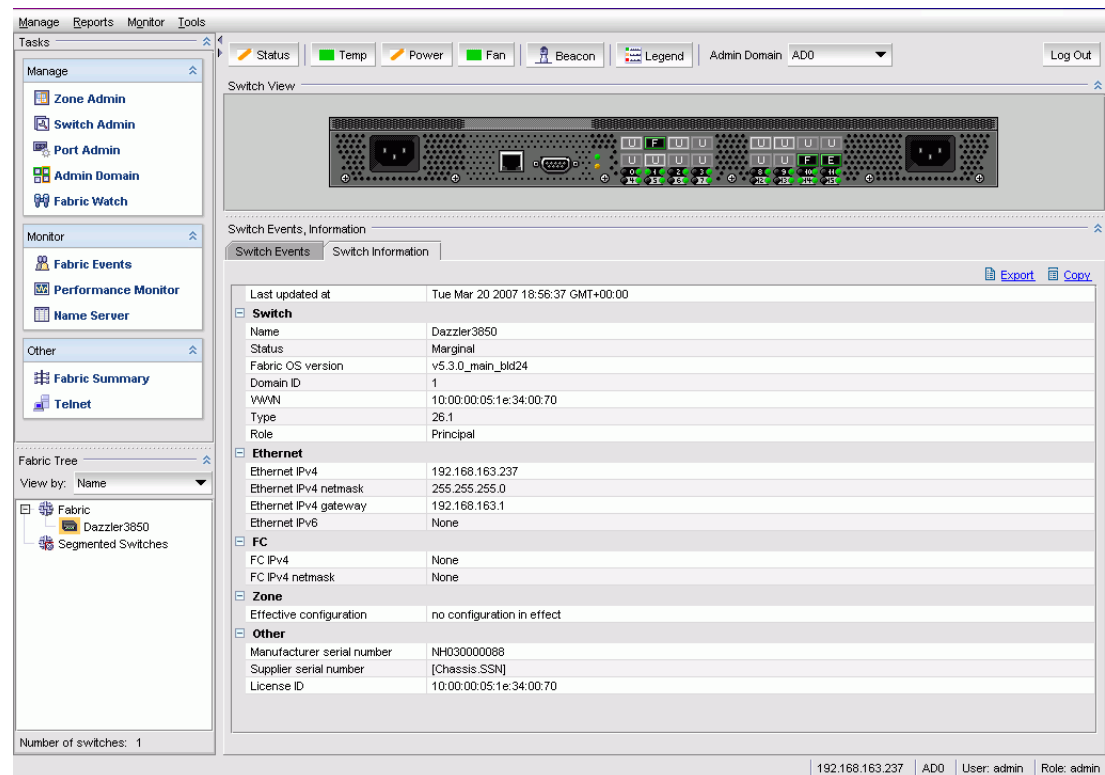

FIGURE 5 Web Tools interface
- Web Tools (see Figure 5 on page 9)
You must log in before you can view Switch Explorer (shown in Figure 5 on page 9).